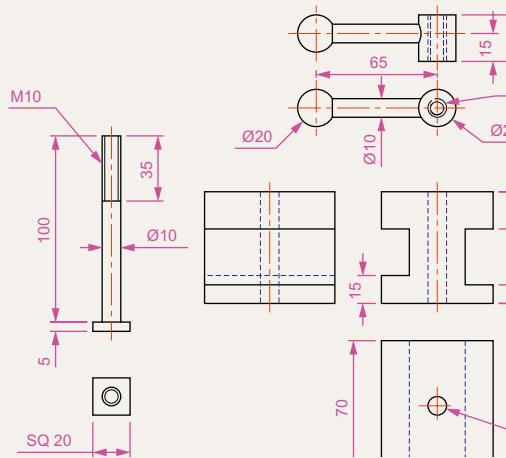

**Fig. 7.27** Exercises 2 and 3
- Fig. 7.27** is a first angle orthographic projection of the other part of the fitment. Construct a three-view third angle orthographic projection of the part.
- Construct an isometric drawing of the part shown in **Fig. 7.27**.